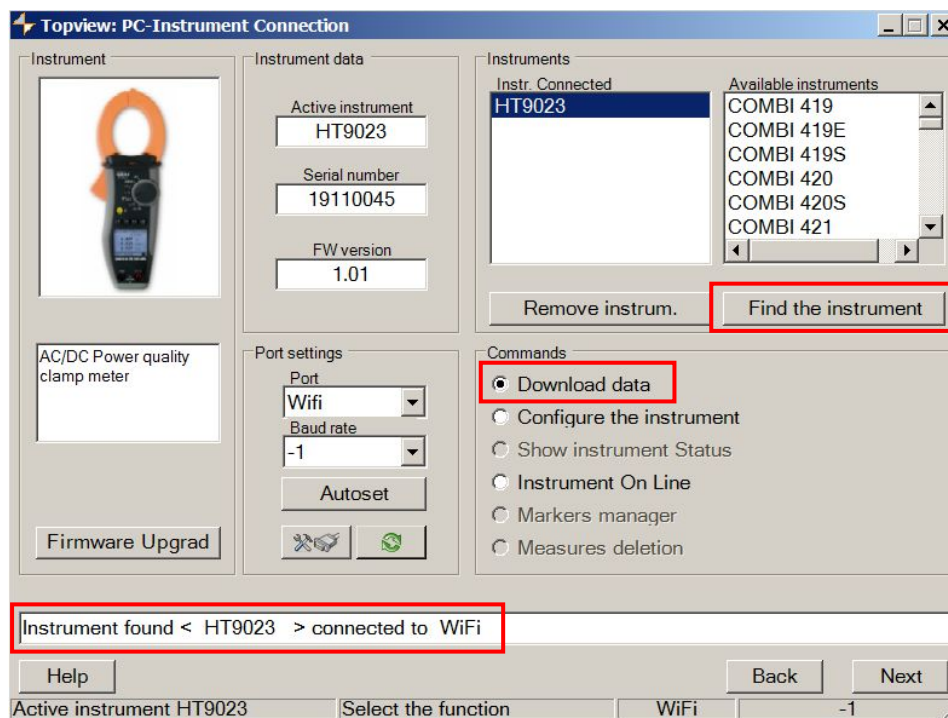

Fig. 16: Instrument detection inside software TopView
- Launch the TopView software, open the “**PC-Instrument connection**” section, run the “Find the instrument” command and check recognition (see Fig. 16)